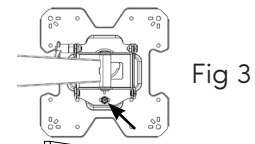

Fig 3
- Remove locking screw from Adapter Plate and detach it from the Wall Arm Assembly (Fig 3).